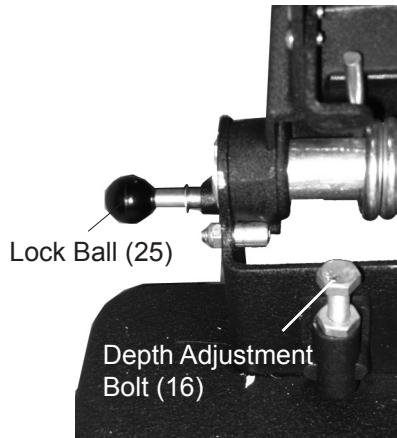

FIGURE 3
To adjust the depth, turn the Depth Adjustment Bolt (16) shown in **FIGURE 3**.